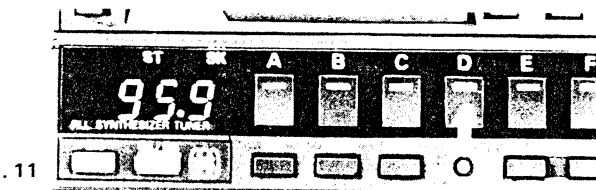

Fig. 11
If you want to hear your desired Designated Area traffic-information, select that designated area and push the corresponding DESIGNATED AREA BUTTON ⑮. (Fig. 11) Then you will hear the traffic-information in that area which was previously entered (memorized) into that button.